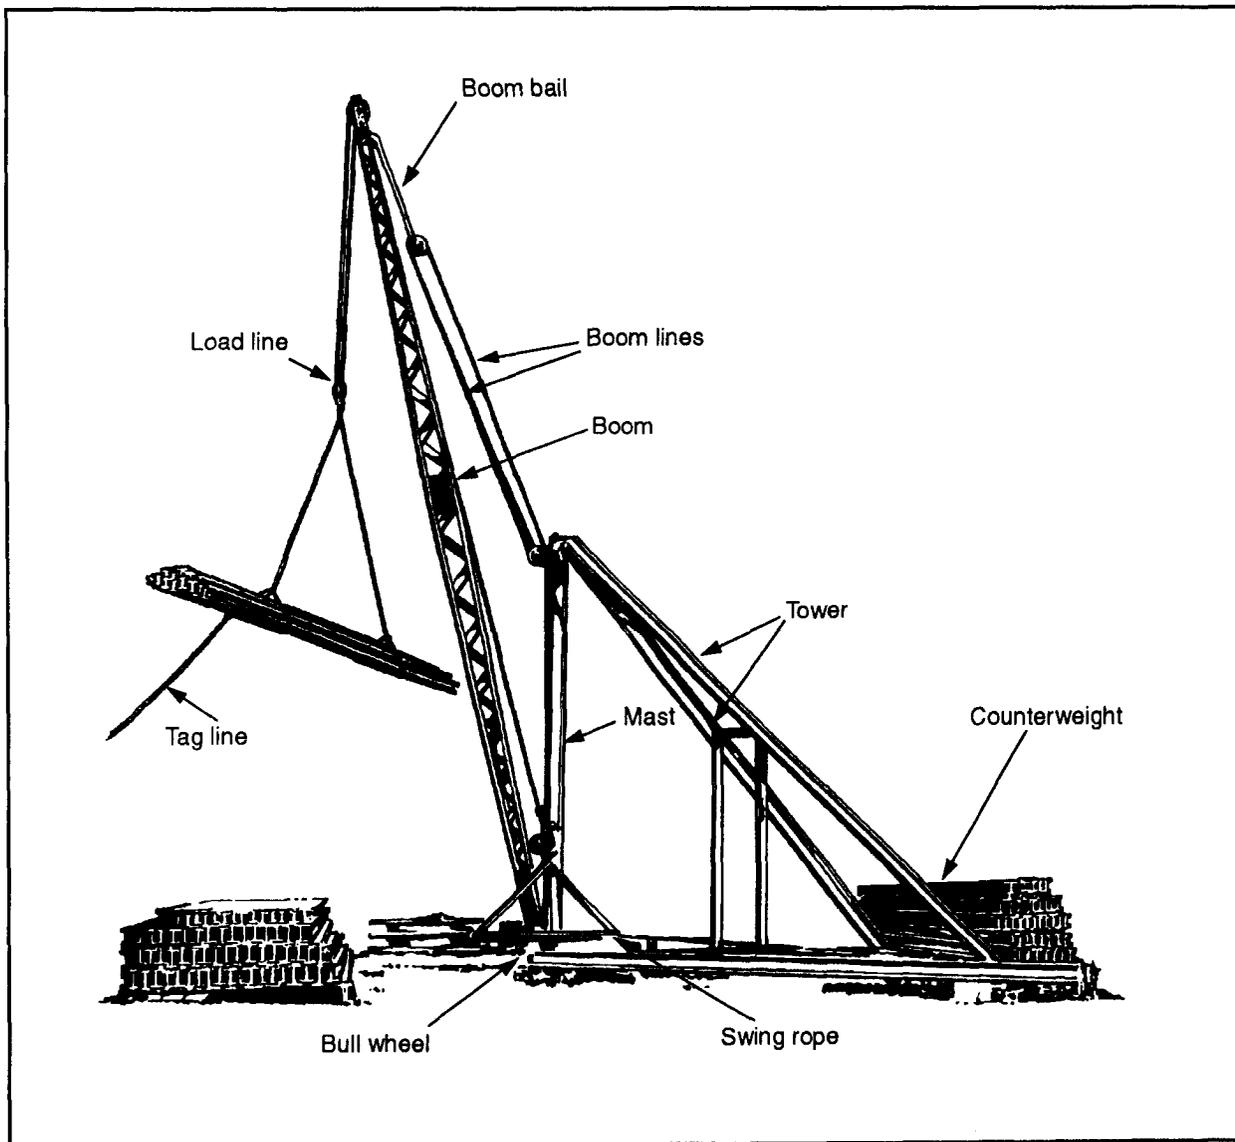

Figure 5-10. Four-ton stiff-leg derrick
- A 4-ton rated capacity with a 28-foot radius (see *Figure 5-10, page 5-14*).